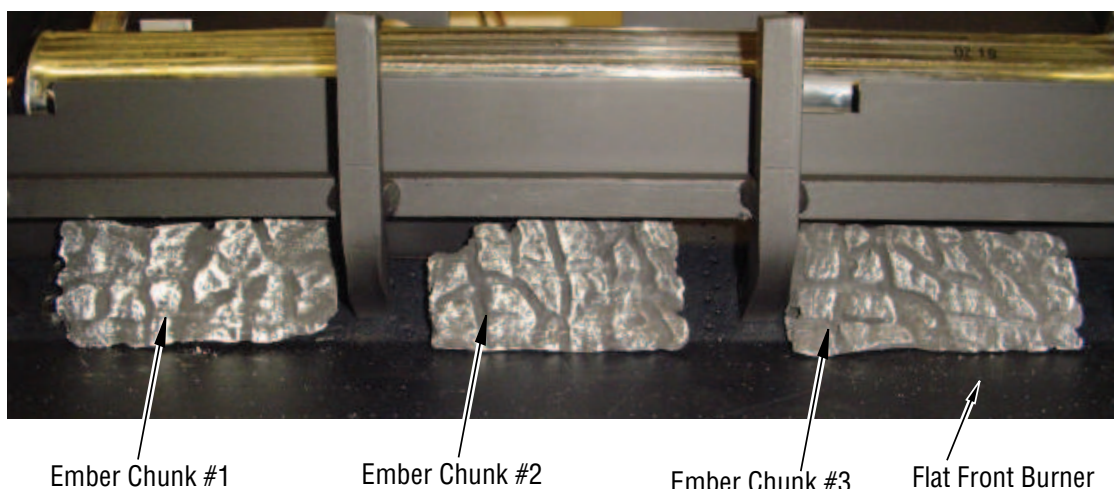

Figure 49 - Ember Chunk Placement Blaze&Glow24 Series
1. **Ember Chunk Placement.** The Blaze&Glow24 burner systems include three ember chunks that are designed to fit over shoulder screws on the ember pan burner. The bottom of each ember chunk has a hole for securing the ember chunk in place when it is placed over a shoulder screw. Place the ember chunks as shown in **Figure 49** on **Page 24** by placing the ember chunk with the number "1" on the left, "2" in the center, and "3" on the right. These numbers are embossed on the back of each piece for identification purposes. Please note that Blaze&Glow18 burner systems do not include ember chunks.